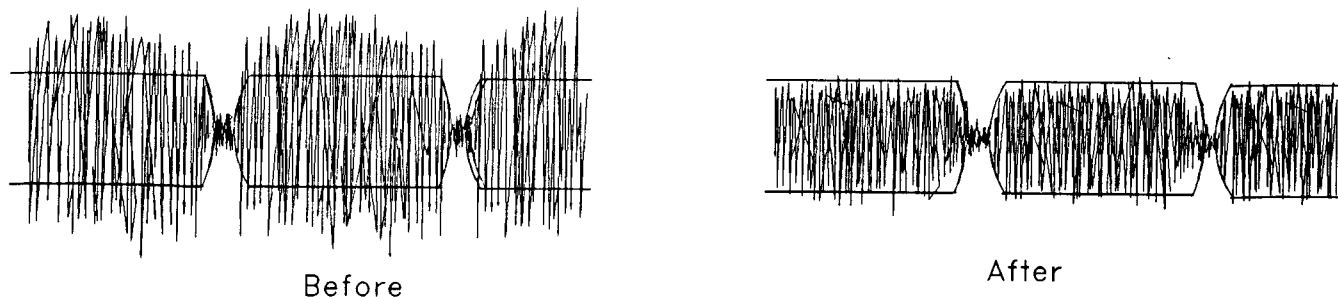

Fig. 1
- 2) Adjust TS01 so that each bar of (R-y) and (B-Y) becomes even respectively (Fig. 1).